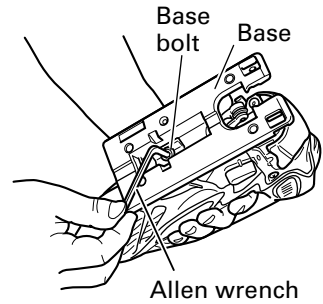
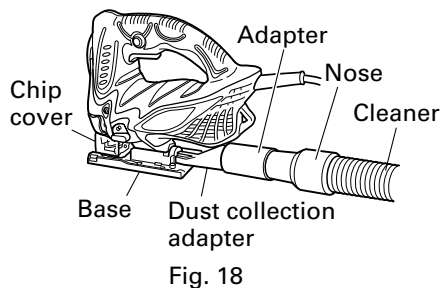

Fig. 10
Fig. 18
- (1) Loosen the base bolt allen wrench attached on base. (Fig. 10)
NOTE: To ensure accurate cutting when using the Guide (Fig. 10), always set the orbital position to "0".
(1) Loosen the base bolt by allen wrench attached on base and move the base fully forward. (Fig. 10, 11)
(3) Tighten the M5 bolt again. (Fig. 10)
(4) Set the orbital position to "0".
- (1) Remove the allen wrench from the base.
- (2) Move the base fully forward. (Fig. 10, 11)
- (3) Attach the chip cover.
- (4) Connect the dust collection adapter with adapter. (Fig. 18)
- (5) Connect the adapter with the nose of cleaner. (Fig. 18)